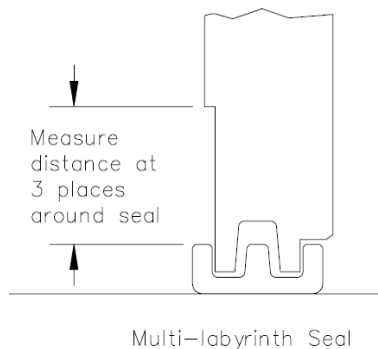

Figure 9:
- With the mounting bolts snug, check the alignment and freedom of rotation. **"B" seals:** Visually check the clearance between the shaft and the bore of the seal. This clearance is small and can be visually checked for uniformity all the way around the seal. **"R" or "H" seals:** Measure the distance between the outside diameter of the seal and the diameter of the housing counterbore in three places. Be sure that each measurement is taken 90 degrees from the previous measurement. All three measurements should be uniform to insure proper alignment. See Figure 9. Align by shimming or shifting as necessary. Use large area shims to avoid distorting the housing and pinching the bearing. Appropriate use of stop bars against faces or ends of feet opposite the direction of load or vibration to avoid shifting of the housing is recommended. Dowel pins can be equally effective if properly used. This is especially important where loads are not directly down through the base. Finally, tighten or torque mounting bolts securely. Up to SAE Grade 5 mounting bolts can be used, properly torqued, to mount cast iron housings (see table 7A). Up to SAE Grade 8 mounting bolts can be used, properly torqued, to mount cast steel housings (see table 7B).